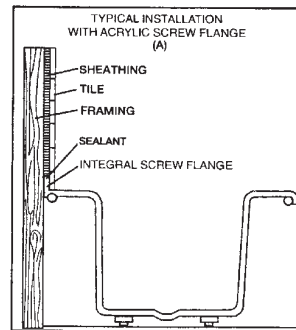

figure 4
3. For units equipped with the acrylic flange, bring the sheathing to the top of flange and seal the joint. (figure 4)